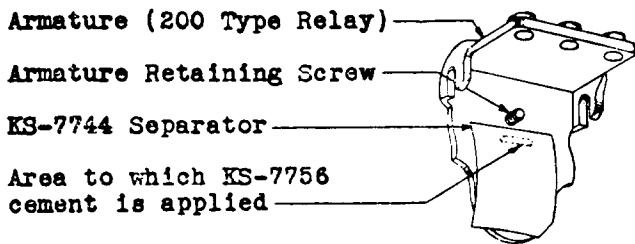

Fig. 8 – Method of Applying KS-7744 Separator
- (1) Remove the armature as outlined in 3.01.
- (2) **Application of Separator Between Armature and Core:** Withdraw a strip of KS-7744 separator paper from the container and cut off a 1/2" piece. Place this separator on a flat surface and with the pointed end of a clean toothpick, which has been dipped approximately 1/8" into KS-7756 cement, distribute a small amount of the cement over an area approximately 1/32" by 3/8" across the 1/2" width near one end. Apply the separator to the inner surface of the armature so that the cemented portion is nearest the armature retaining screw and so that the separator extends from the armature retaining screw to the bottom of the armature as shown in Fig. 8.